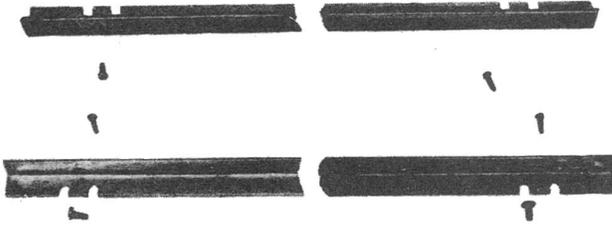

Fig. 12 - 54-type Bracket Assembly
5.04 The 54-type bracket assemblies may be used for side-by-side flush mountings (Fig. 12). Each assembly consists of two single-type brackets and the necessary screws for fastening the brackets to the unit and keys and for securing the assembly to the console. The 54A bracket has a capacity of three keys or one dial unit and two keys. It also provides for mounting a buzzer bracket, if required. The 54B bracket assembly has a capacity of seven keys or one dial unit and six keys. The 54C bracket has a capacity of one key and one apparatus unit.